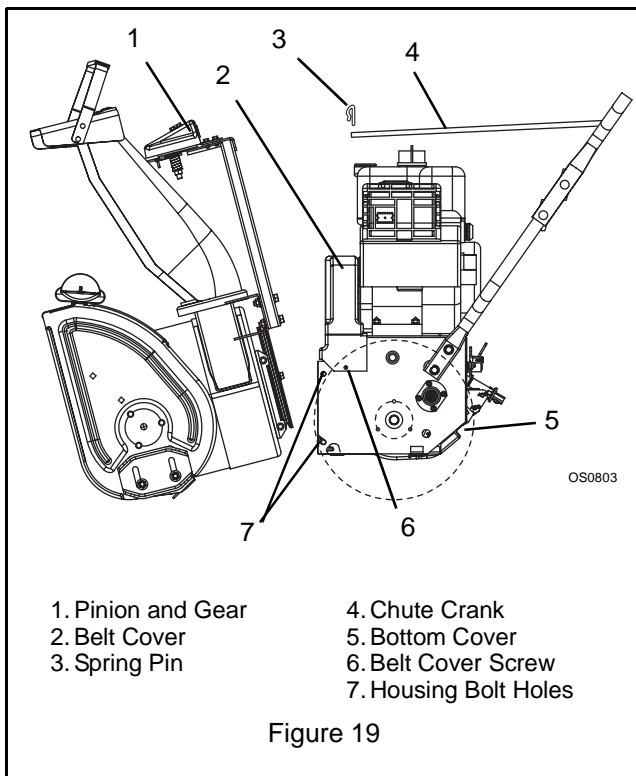

Figure 19
(Figures 19 and 20)
**NOTE:** Housing and frame must be tipped apart and attachment drive belt removed from engine sheave in order to change traction drive belt (Figures 19 and 20).